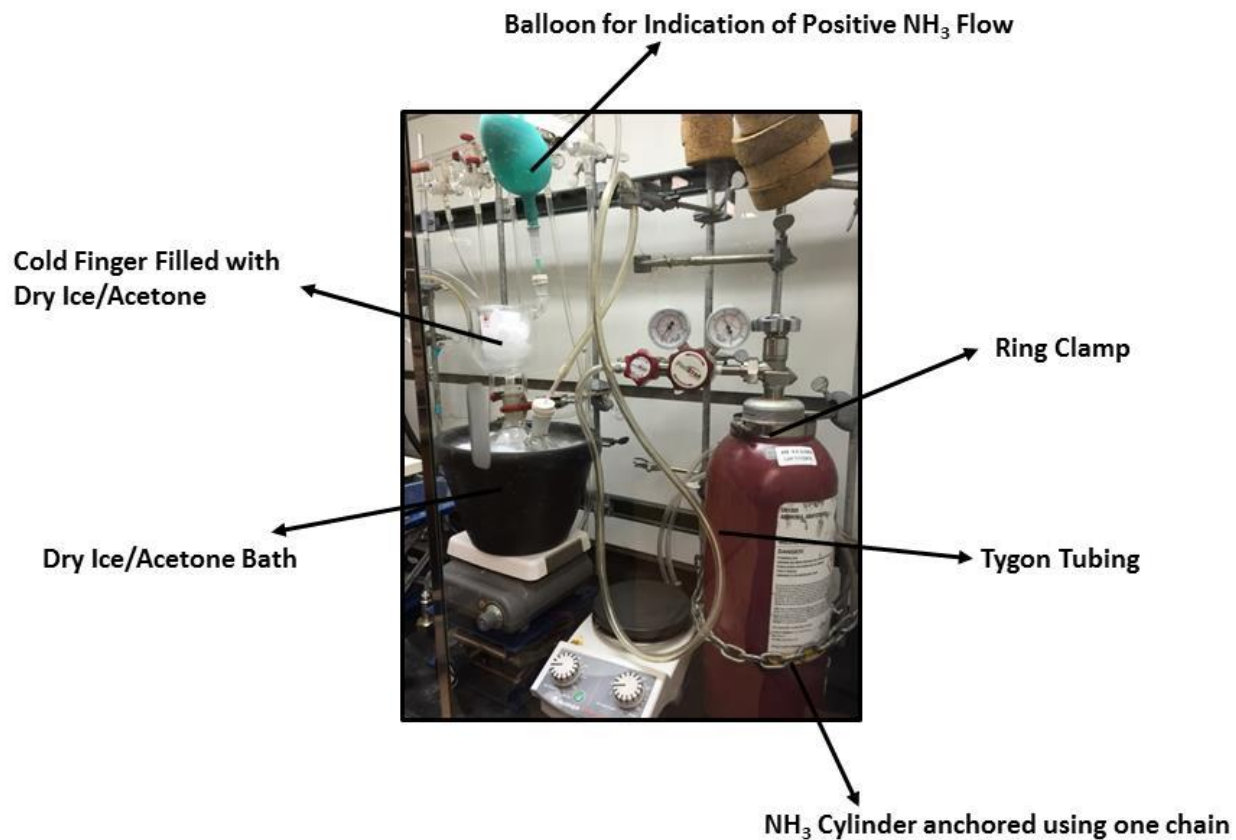

Figure 1: Dispensing and Condensing Ammonia Gas
Step 2 – Dispensing and Condensing Anhydrous Ammonia into Reaction Flask (Figures 1 and 2)
9. Pierce the needle into the septum of the RBF side neck and slowly open the valve on the ammonia tank. Set delivery pressure to 20 psig. This will begin the transfer of ammonia to the reaction flask; ammonia will condense into the reaction flask (Figures 1 and 2).